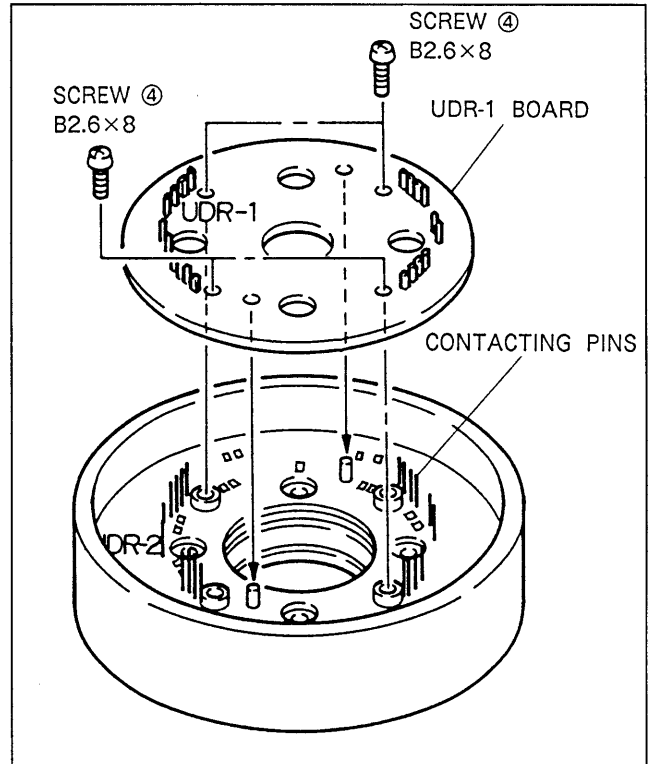

Fig. 6-1-3. UDR-1 Board Removal
4. Remove the four screws ④ shown in Fig. 6-1-3 from the new upper drum assembly. While pulling the UDR-1 board straight upward, remove the upper drum assembly.